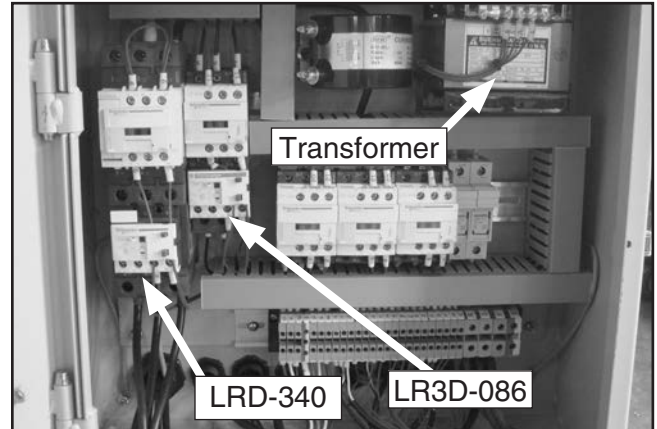

Figure 3. Overload relay.
4. Remove the LRD-340 overload relay (**Figure 3**), and replace it with an LR3D-325 (17-25A) type, with the dial set to 18A.
5. Remove the LR3D-086 overload relay (**Figure 3**), and replace it with an LR3D-076 (1.6–2.5A) type, with the dial set to 1.7A.